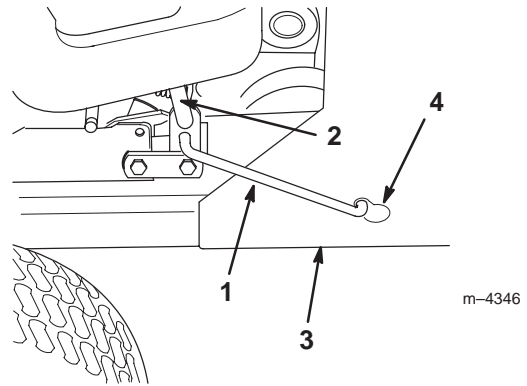

Figure 42
2. Relieve the snowthrower belt tension by pulling the spring tension lever forward until you have enough slack to disconnect the link from the keyhole slot (Fig. 42).
6. On the right side of the tractor, pull forward on the spring tension lever and connect the spring tension link from the spring tension lever on the pulley housing to the keyhole slot in the snowthrower frame (Fig. 42).